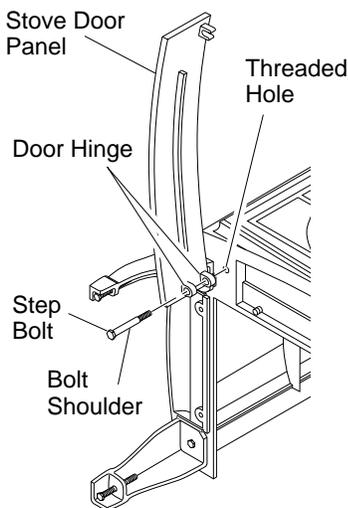

Figure 11 - Attaching Lower Stove Door Panel
9. Attach stove door by inserting step bolt through door hinge pivot hole and into threaded hole in stove body (see Figure 11 and Figure 9, page 5). Use an adjustable wrench or a 12mm socket to fasten step bolt. Tighten step bolt until snug. Make sure door moves freely.